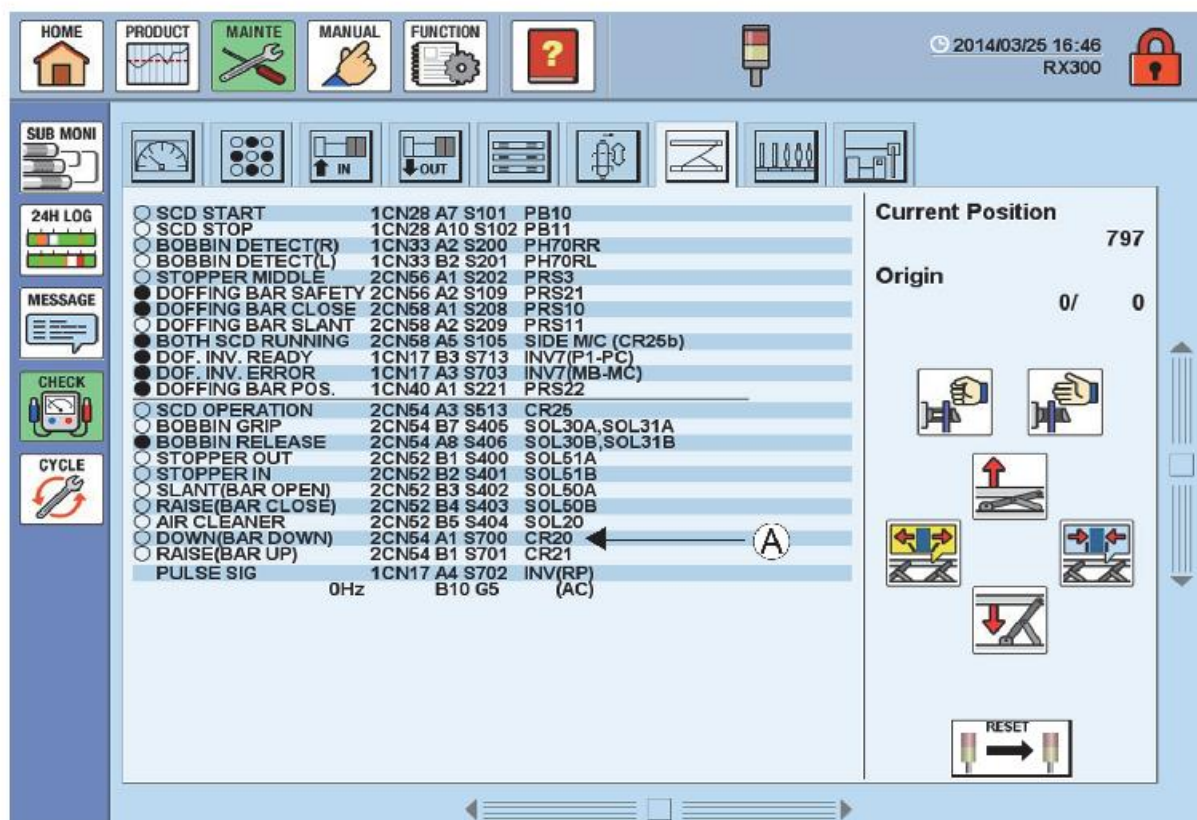

Fig.3 I/O monitor (by device) screen
EXAMPLE: In the case of ① in Fig. 3